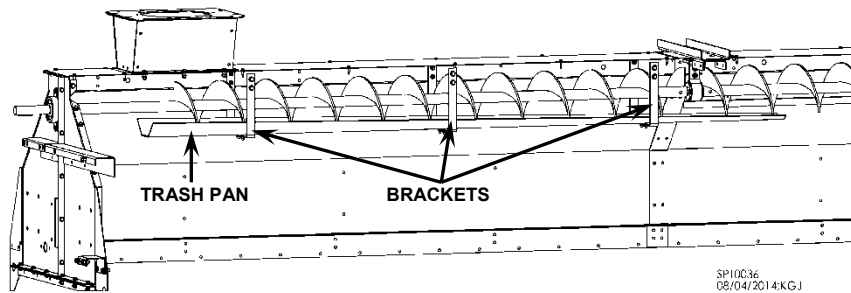

Fig. 2-13 – Trash pan and bracket installation
1. Bolt trash pan brackets into wet bin on filling end of dryer. Bolt trash pan to trash pan brackets. See Fig. 2-13.